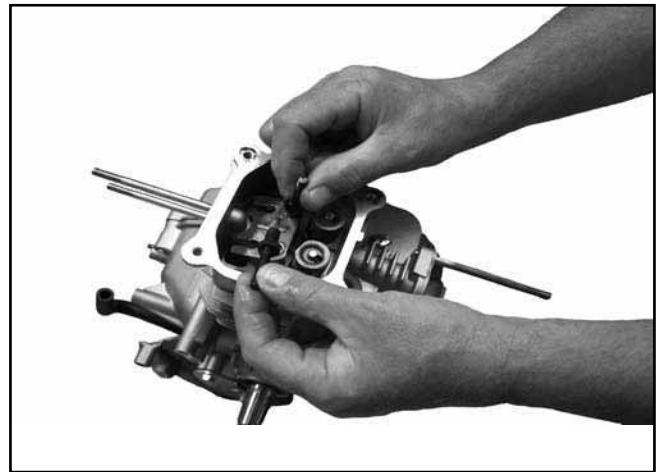

Figure 8-38. Removing Rocker Studs.
1. Unscrew and remove the rocker studs from the cylinder head. See Figure 8-38.